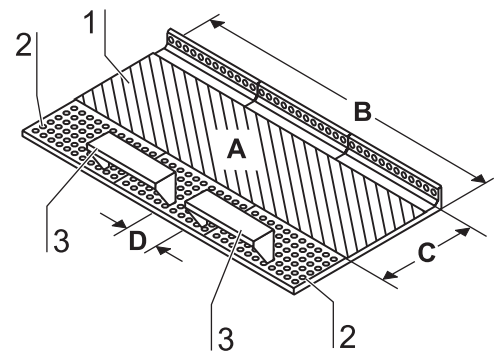

Fig. 9
**Fig. 9:** The working area **A** for perfect material protection extends over the entire width **B** and depth **C** of the workplate. The two arm rests [3] are positioned at a distance **D** (20 cm) to each other centrally on the workplate [1] or on the workplate segments. The armrests are installed to the second perforation line [2] of the workplate.